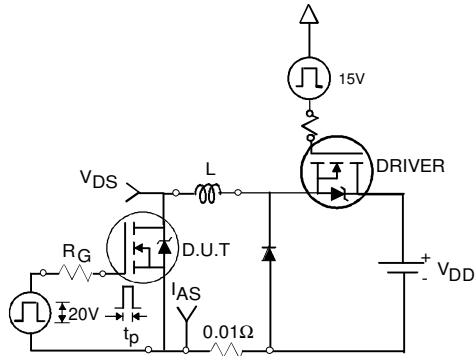

Fig 12a. Unclamped Inductive Test Circuit
3. Equation below based on circuit and waveforms shown in Figures 12a, 12b.
- ④ Pulse width $\leq 400\mu\text{s}$; duty cycle $\leq 2\%$.
- ⑤ C_{oss} eff. is a fixed capacitance that gives the same charging time as C_{oss} while V_{DS} is rising from 0 to 80% V_{DSS} .
- ⑥ Calculated continuous current based on maximum allowable junction temperature. Package limitation current is 75A.
- ⑦ Limited by T_{Jmax} ; see Fig.12a, 12b, 15, 16 for typical repetitive avalanche performance.